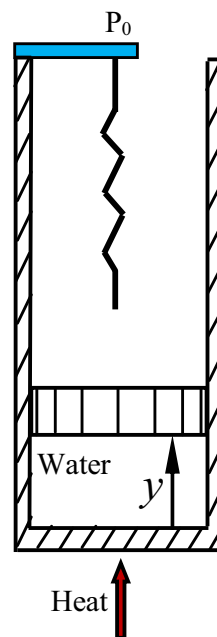

Figure 1: Schematic for Problem 3 (not to scale)
3. A very long frictionless piston-cylinder and linear-spring assembly containing water is shown in Figure 1. The inner cross-sectional area of the cylinder is  $A = 0.05 \text{ m}^2$ . The distance from the bottom surface of the cylinder to the bottom surface of the piston is denoted as  $y$ . At the initial state (State 1), the piston is detached from spring, the water is a saturated liquid at  $T_1 = 125^\circ\text{C}$ , and the value of  $y$  is  $0.02 \text{ m}$  (*i.e.*,  $y_1 = 0.02 \text{ m}$ ). Then, heat is transferred to the water from the outside. At the exact moment when the piston just begins to touch the spring, the state of the water is referred to as State 2. The quality of the water at State 2 is  $x_2 = 0.15$ . The system continues to receive heat until the final state (State 3) is reached. At State 3, the temperature of the water is  $T_3 = 200^\circ\text{C}$  and the value of  $y$  is twice that at the State 2 (*i.e.*,  $y_3 = 2y_2$ ). The local gravitational acceleration is  $g = 9.81 \text{ m/s}^2$  and the local atmospheric pressure is  $P_0 = 100 \text{ kPa}$ .